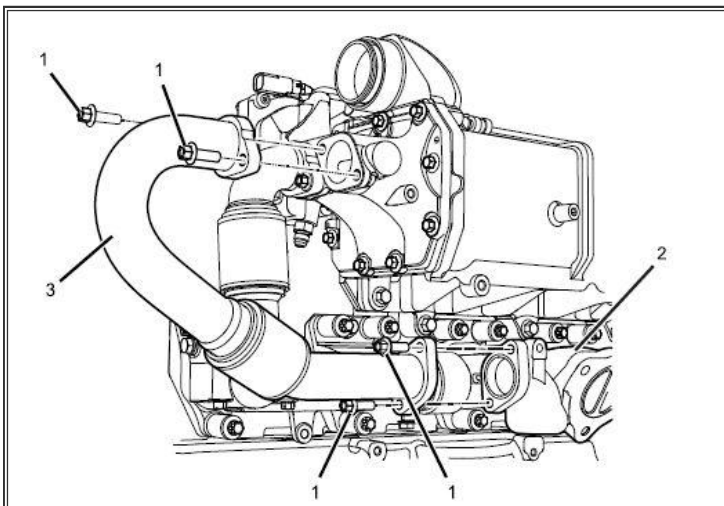

Figure 2: Outboard EGR Inlet Tube
- Item 1: M8 x 25 heat-resistant bolt (4)
8. Remove outboard EGR inlet tube and two gaskets (**Figure 2**, Item 3). Discard gaskets and bolts (**Figure 2**, Item 1).